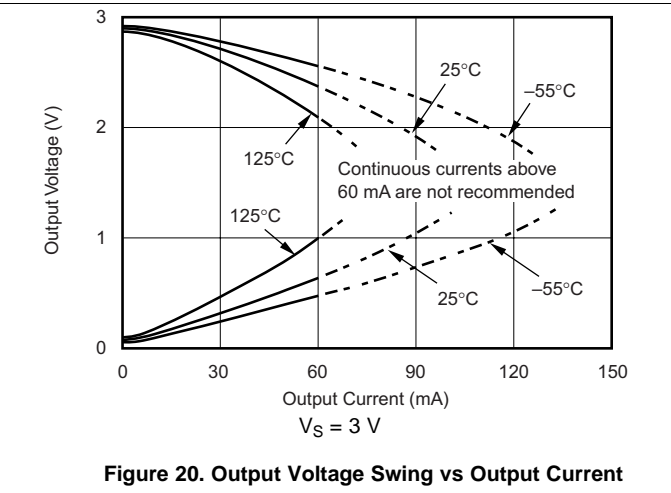

Figure 20. Output Voltage Swing vs Output Current
(1) Full range  $T_A = -40^\circ\text{C}$  to  $125^\circ\text{C}$ .
(2) See Figure 20.
TI does not recommend running a continuous dc current in excess of  $\pm 60$  mA. See Figure 20 in the Typical Characteristics section.